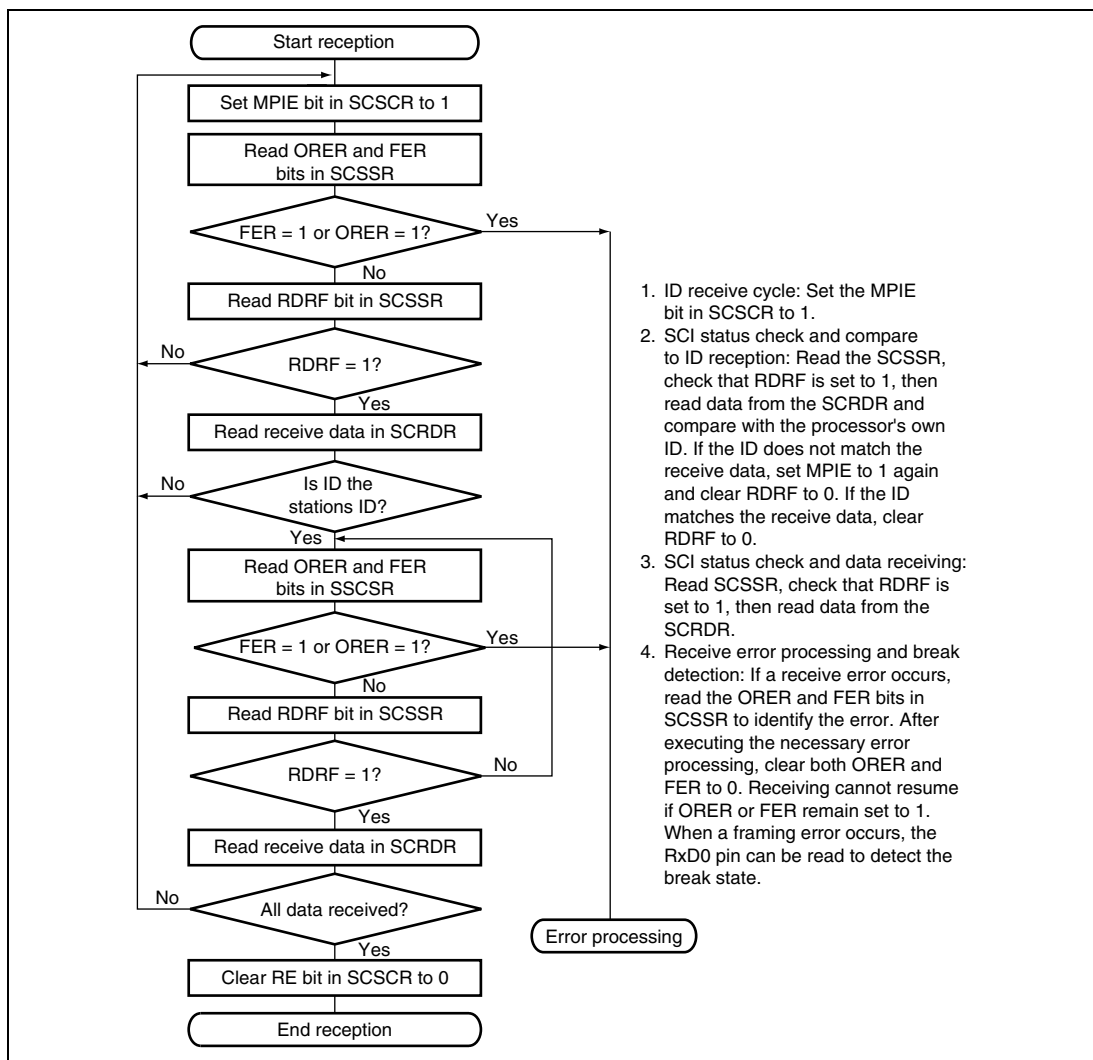

**Figure 14.15 Sample Flowchart for Receiving Multiprocessor Serial Data**
**Receiving Multiprocessor Serial Data:** Figure 14.15 shows a sample flowchart for receiving multiprocessor serial data. Reception of multiprocessor serial data should be carried out in the following procedure after setting the SCI in a reception-enabled state.